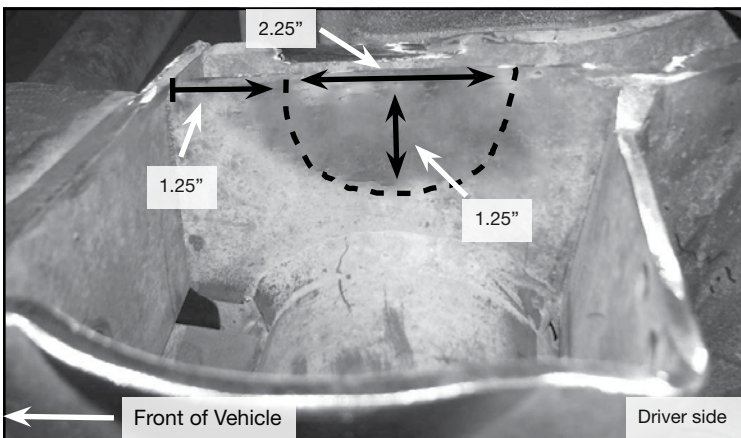
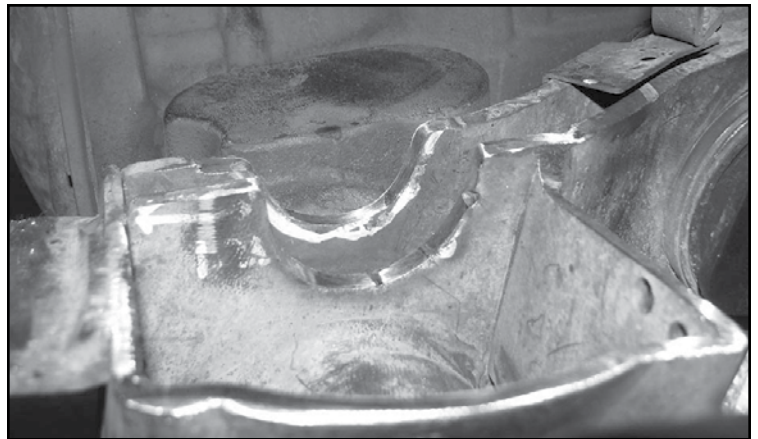

FIGURE 14 - STEP 10
FIGURE 15 - STEP 10
10. On the inside of the spring perch support, measure 1.25" from the front and mark, next measure 2.25" from that mark. Measure 2.375" from the front, from there measure 1.25" down and mark. Radius the 3 marks like shown in **FIGURE 14**. Carefully cut the support. **NOTE: Cutting will need to be done to both plates, the one you marked and the one behind.** **SEE FIGURE 15**. Sand to a smooth finish.